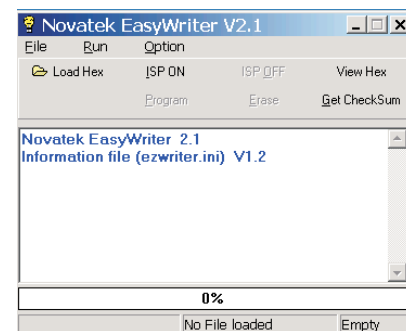

Fig. 7
1. Double click the Easywriter.exe icon in desktop then appears window as shown in Fig.7 .